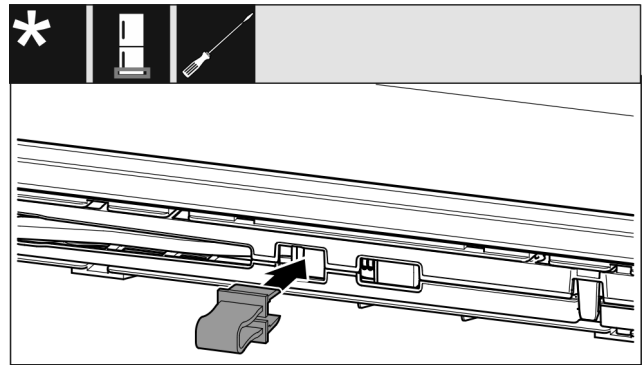

Fig. 14
- ▶ Latch safeguard into opening. (see Fig. 14)